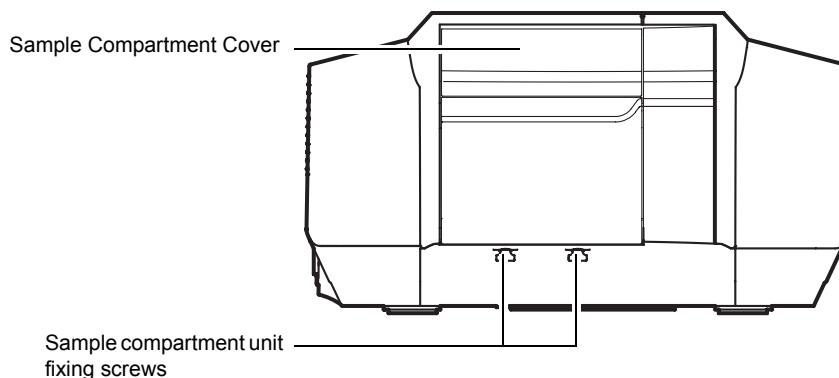

Fig.5-4 Main Body, Front View
- 1 Loosen the two sample compartment unit fixing screws located at the bottom of the sample compartment (Fig.5-4).
- 2 Tighten the two sample compartment fixing screws (Fig.5-4) to secure the sample compartment unit.
- 3 Close the sample compartment cover (Fig.5-4).
- 5 Close the sample compartment cover (Fig.5-4).
- 6 Close the sample compartment cover (Fig.5-4).